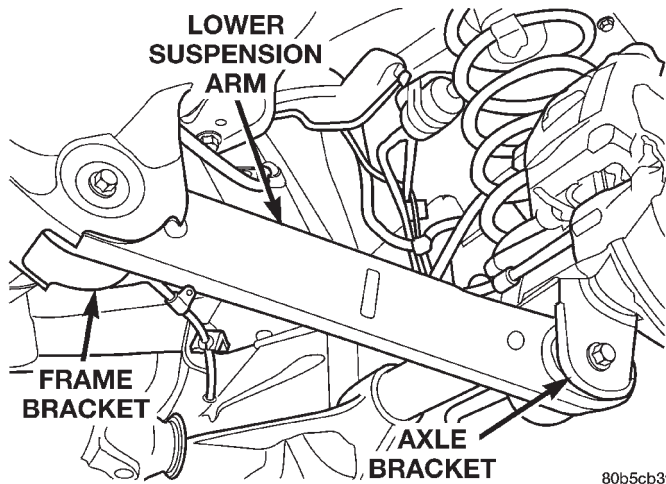

Fig. 6 Lower Suspension Arm
- (1) Raise the vehicle and support the rear axle.
- (2) Remove the lower suspension arm nut and bolt from the axle bracket (Fig. 6).
- (3) Remove the nut and bolt (Fig. 6) from the frame rail and remove the lower suspension arm.